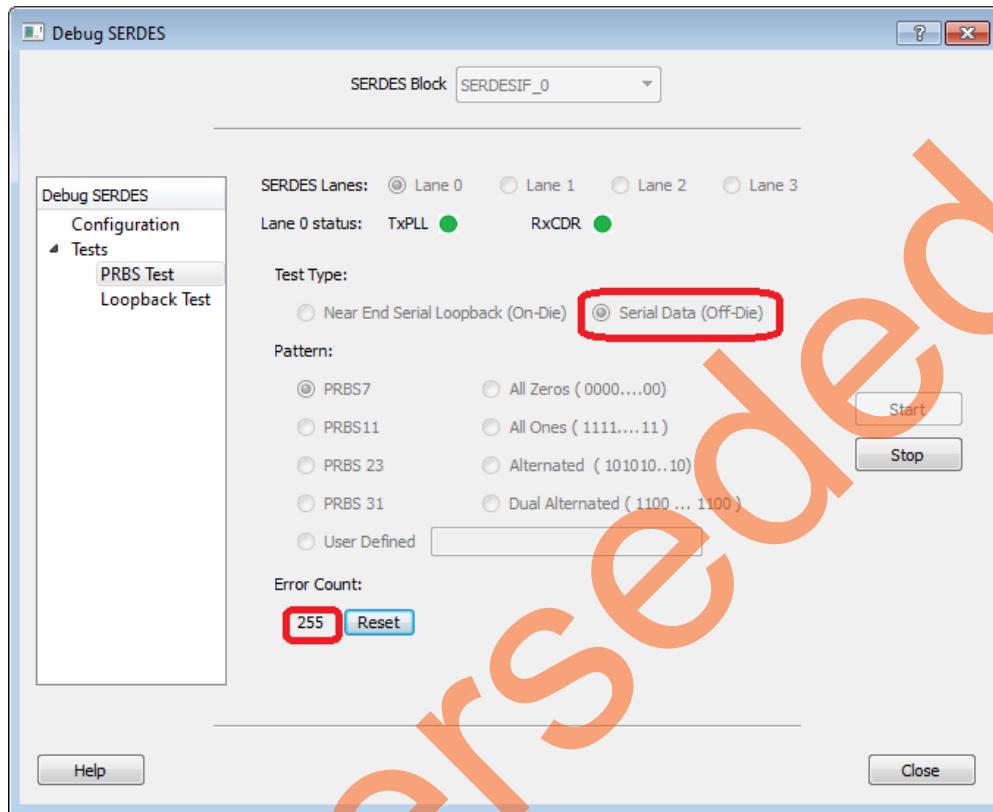

Figure 2-23 • Sending Serial Tx Data Off-Die
4. Stop the test and change the Test Type to **Serial Data (Off-Die)**. Restart and observe the Lane 0 error counter. This is due to the fact that the data is no longer looping between Tx and Rx. Lane 0 is not looped together on the PCB. In this case, the error count will increment up to the maximum 255, as shown in Figure 2-23.